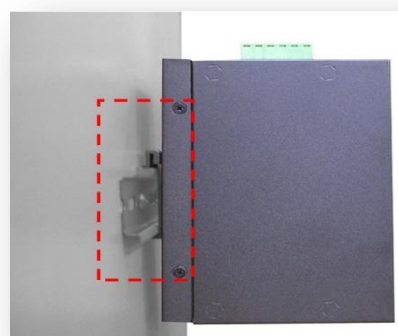

Figure 3.1.3
4. Lightly pull down the bracket on to the rail as shown below in *Figure 3.1.3*